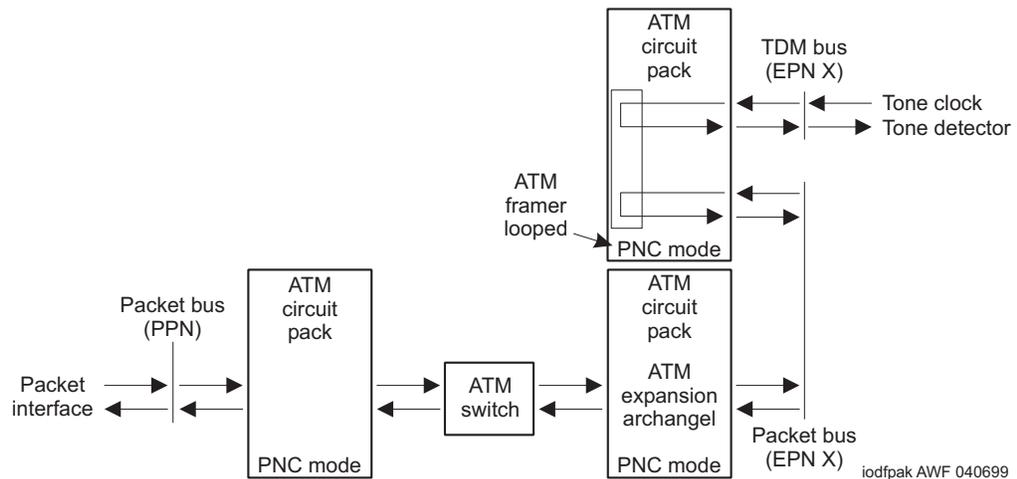

Figure 20. ATM Board Framer Looparound Test (#1260) (non-EAA, Packet Path)
- **Packet path:** the Packet Interface circuit pack sends packet data to the ATM framer interface, where it is mapped into ATM cells and then looped around internally. The cells are converted back to packet data after it has been looped. This portion of the test verifies correct operation of the ATM-EI's Packet bus interface and a large portion of the ATM-EI's packet paths. Figure 20 shows the packet switched signal path for the ATM circuit pack.